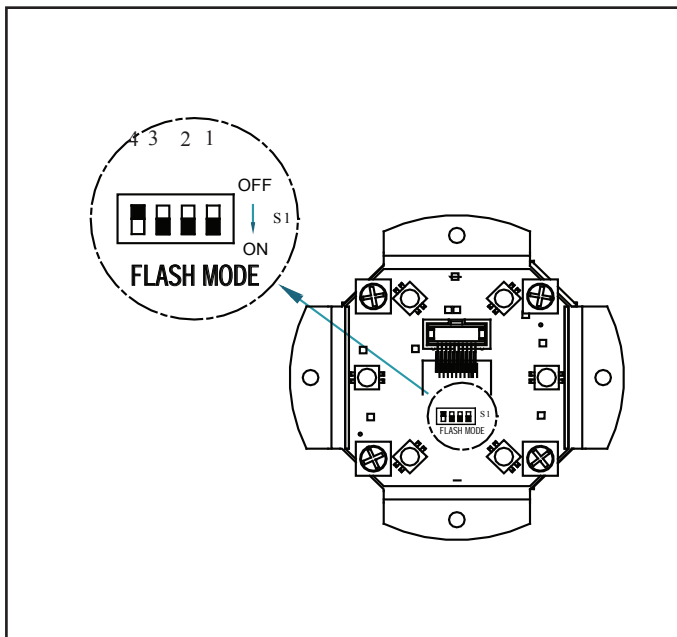

Figure 7. Detail of Dipswitch Location
- b. Set dipswitch (Figure 7) for desired flash rate. Refer to Table 3 for dipswitch settings.